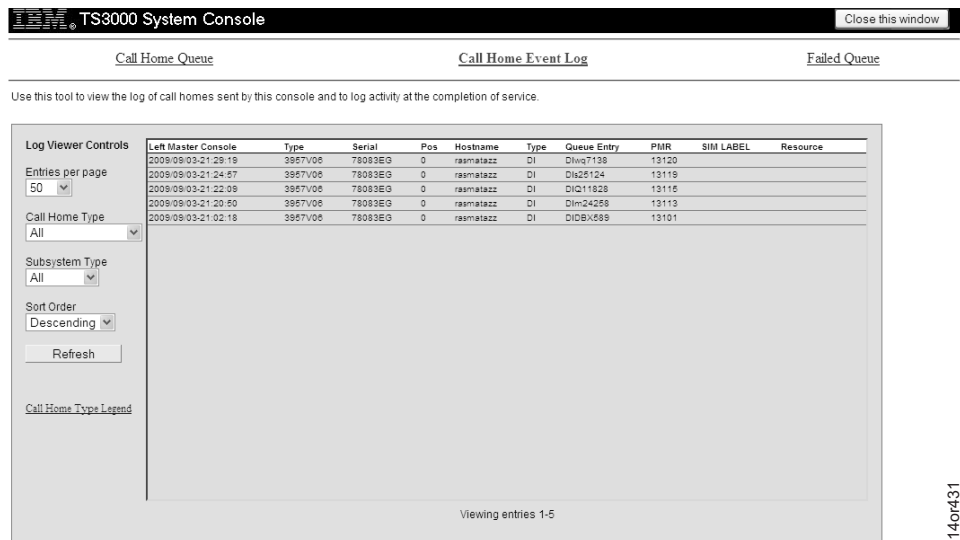

Figure 182. Call Home Event Log.
5. Click **Call Home Event Log** at the top of the page. You see the screen shown in Figure 182 on page 148.